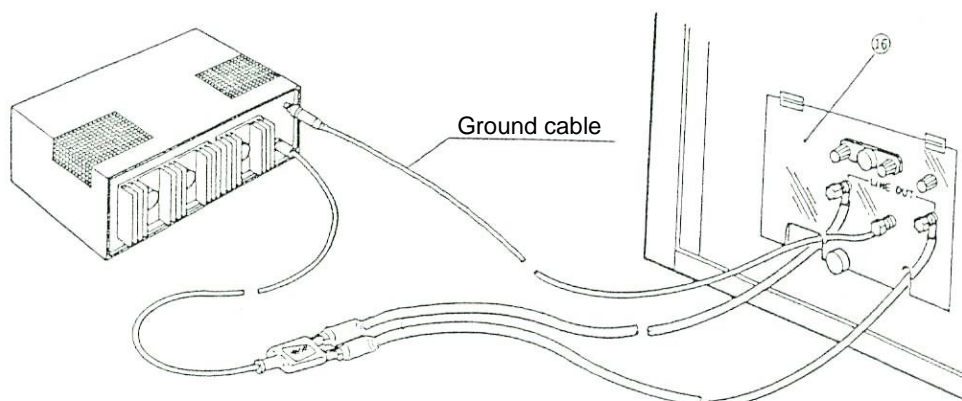

Fig. 15
4. Connect the single phase LINE cable (marked C in the accessory list) to the LINE IN connector ⑰. Connect the other end of the cable to the power supply.
5. For the common mode test, connect LINE OUT terminal of the Surge injection selector to EUT with the attached LINE OUT cable as shown in Fig. 15. Connect G terminal to G terminal or FG of EUT with the attached Ground cable.
4. Connect the Single phase LINE IN cable (marked C in the accessory list) to the LINE IN connector ⑰. Connect the other end of the cable to the power supply.
5. Make connections between each terminal and EUT with the attached LINE OUT cable and Ground cable as shown in Fig. 15 and 16 for the common and normal modes testing, respectively.
6. Turn on the LINE ON breaker ⑰. (LINE ON lamp ⑱ will turn on.)